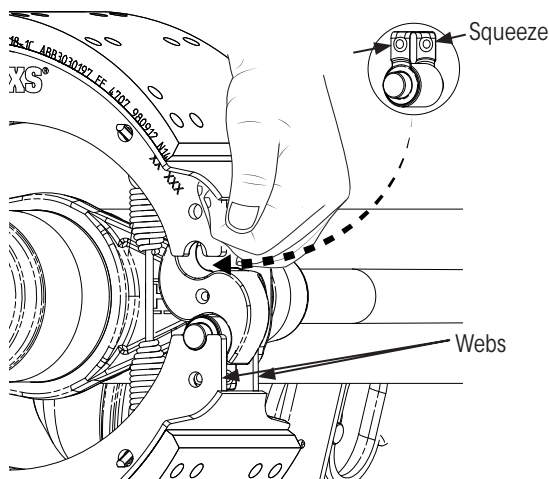

Figure 46: Installing brake shoe ruler and roller retaining clip
11. If needed, **install** the roller retaining clip on the brake shoe roller (Figure 46).
12. **Pull** the lower brake shoe away from the S-cam, **squeeze** the roller retaining clip together and **insert** the shoe roller/retaining clip assembly between the brake shoe webs (Figure 46).